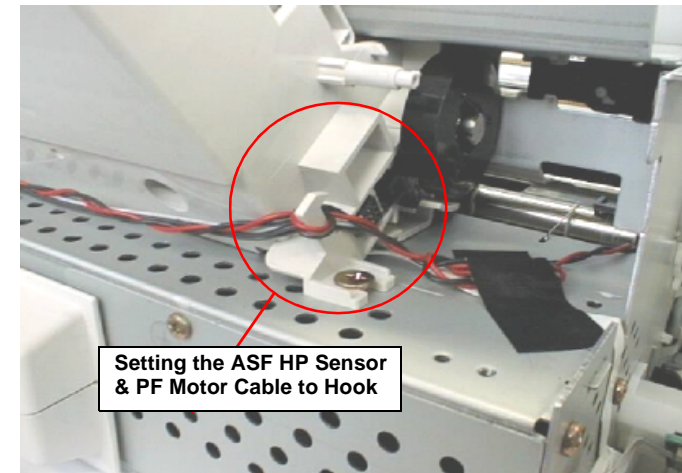

Figure 4-23. Setting the ASF HP Sensor & PF Motor cable
- Make sure the ASF HP sensor cable and the PF Motor Cable are set in the hook on the right side (viewed back side) of ASF unit. Refer to Figure 4-23.